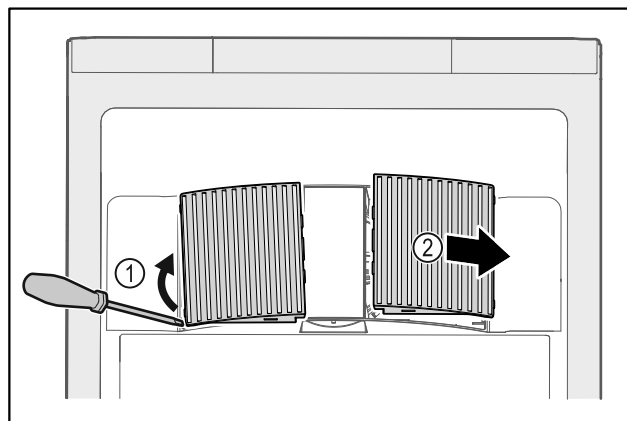

Fig. 171
- ▶ Carefully lever out fan covers from the side Fig. 171 (1) and remove towards the front Fig. 171 (2).